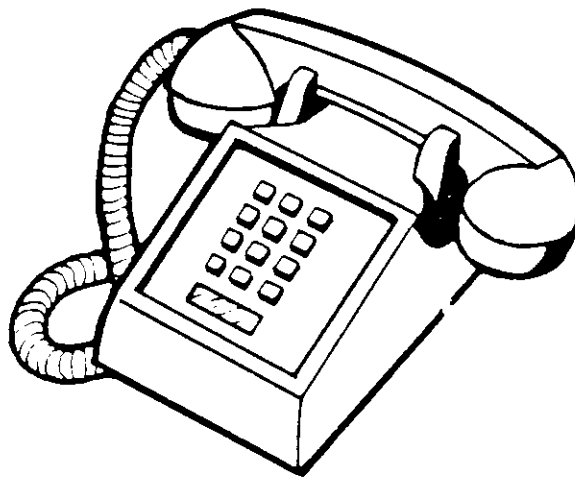

Figure 1-8 SINGLE LINE (2500 TYPE) TELEPHONE, EK-824/1232/1648
2.19 A standard single line (2500 type) telephone (Figure 1-8) can be used with the system. Single line telephones access system features by using the hookswitch in conjunction with dialed access codes. These telephones are connected to an Intercom circuit when the handset is lifted.